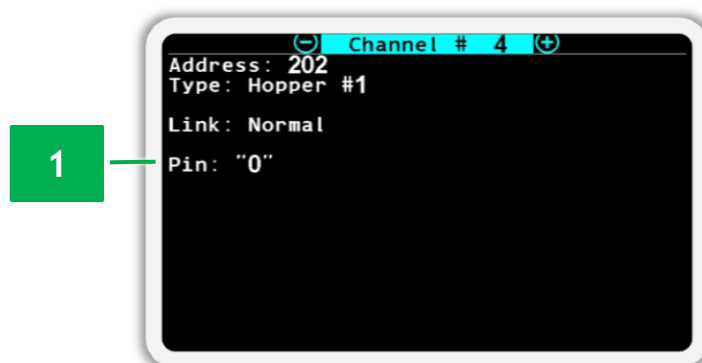

Figure 80 Status view screen for the hopper full level sensor
- *Pin* - displays the current value of the logic level of the signal (“0” or “1”) at the input of the input device to which this sensor is connected (see Figure 80).